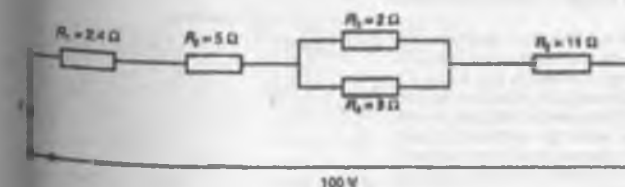

Figure A2.1
- Resistances of $5\ \Omega$, $7\ \Omega$, and $8\ \Omega$ are connected in series. If a 10 V supply voltage is connected across the arrangement determine the current flowing through and the p.d. across the $7\ \Omega$ resistor. Calculate also the power dissipated in the $8\ \Omega$ resistor. (6)
- For the series-parallel network shown in Fig. A2.1, find (a) the supply current, (b) the current flowing through each resistor, (c) the p.d. across each resistor, (d) the total power dissipated in the circuit, (e) the cost of energy if the circuit is connected for 80 hours. Assume electrical energy costs 7.2p per unit. (15)
- The charge on the plates of a capacitor is 5 mC when the potential between them is 4 kV. Determine the capacitance of the capacitor. (2)
- Two parallel rectangular plates measuring 80 mm by 120 mm are separated by 4 mm of mica and carry an electric charge of $0.48\ \mu\text{C}$. The voltage between the plates is 500 V. Calculate (a) the electric flux density (b) the electric field strength, and (c) the capacitance of the capacitor. in picofarads, if the relative permittivity of mica is 5. (7)
- A $4\ \mu\text{F}$ capacitor is connected in parallel with a $6\ \mu\text{F}$ capacitor. This arrangement is then connected in series with a $10\ \mu\text{F}$ capacitor. A supply p.d. of 250 V is connected across the circuit. Find (a) the equivalent capacitance of the circuit, (b) the voltage across the $10\ \mu\text{F}$ capacitor, and (c) the charge on each capacitor. (7)
- A coil of 600 turns is wound uniformly on a ring of non-magnetic material. The ring has a uniform cross-sectional area of $200\ \text{mm}^2$ and a mean circumference of 500 mm. If the current in the coil is 4 A, determine (a) the magnetic field strength, (b) the flux density, and (c) the total magnetic flux in the ring. (5)
- A mild steel ring of cross-sectional area $4\ \text{cm}^2$ has a radial air-gap of 3 mm cut into it. If the mean length of the mild steel path is 300 mm, calculate the magnetomotive force to produce a flux of $0.48\ \text{mWb}$. (Use the B-H curve on page 71) (8)